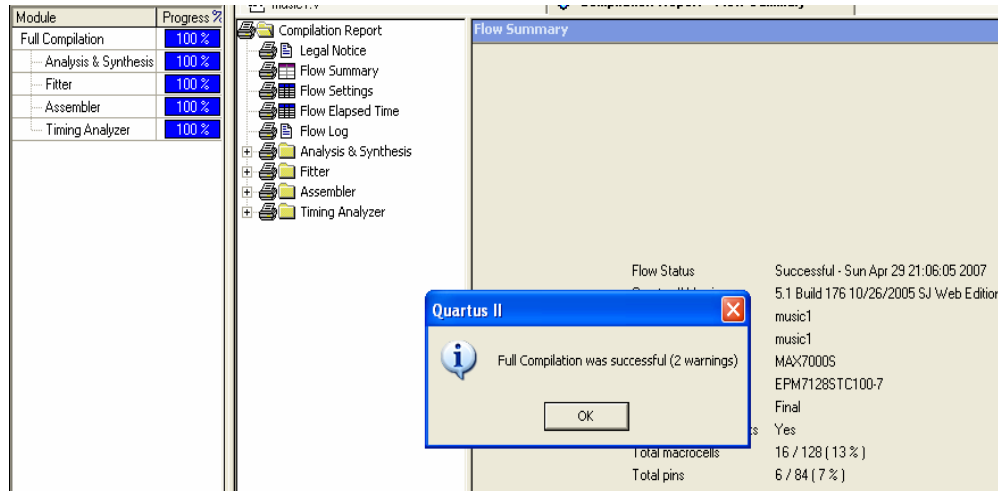

Figure 3.7: Full compilation popup window message.
11. The compiler will begin compiler at once. When full compilation is completed, a popup window message will appear. Click OK to close the window. Refer Figure 3.7.